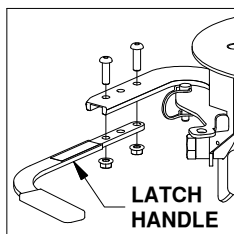

Figure E1: View of
1. **Attach handle.** Locate the two 3/8" x 1-1/4" button head cap screws and the two 3/8" lock nuts provided in a bolt bag. Using the carriage bolts and the nuts, attach the coupler handle to the arm and tighten, see Figure E1.